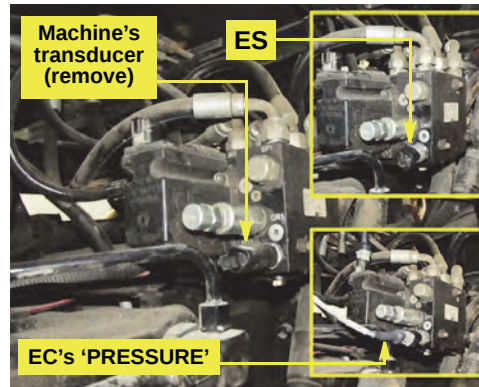

Figure 3e: Pressure transducer replacement
- e. Locate the machine's existing PVE pressure transducer in the PVE block (Figure 3e - see also step 3d). Remove it and install replacement transducer **ES** (Figure 3e top inset). Connect **EC**'s branch cable labeled 'PRESSURE' to the newly installed transducer (Figure 3e bottom inset).